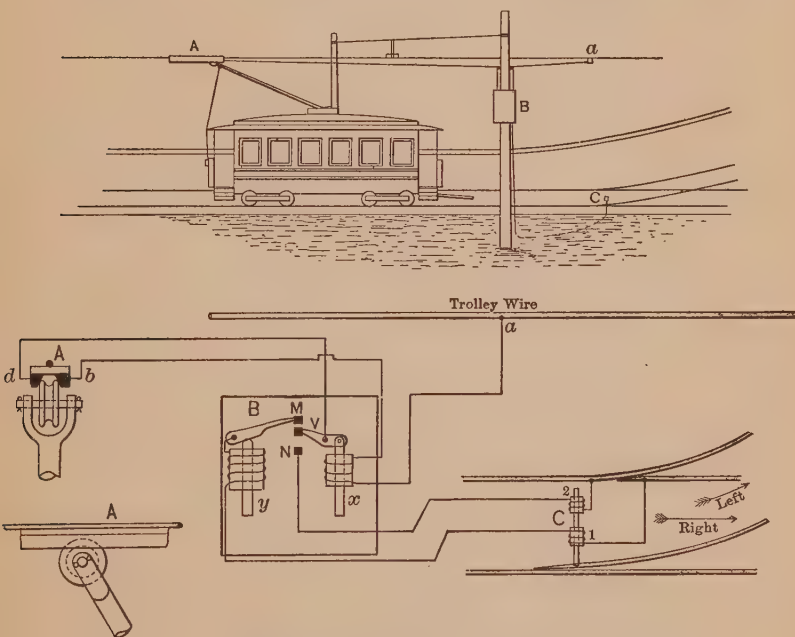

FIG. 211. Illustration and diagram of an electric track switch.
**125. Electric Track-switches.** In Fig. 211 is shown the Cheatham track switch. It consists primarily of three elements: the **pan**, *A*, attached to the trolley wire about 30 feet from the switch; the **pole box**, *B*, containing the electromagnet (*x*) which makes the proper electric contact; and the **track box**, *C*, containing the electromagnets (1) and (2), which operate the track switch.